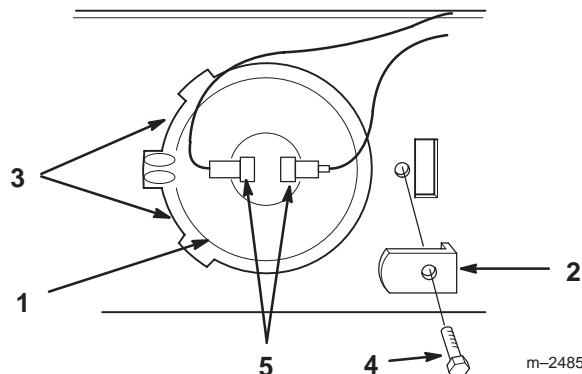

Figure 39
3. Remove screw securing retainer bracket (Fig. 39).
4. Lift and twist bulb out of pocket (Fig. 39).
1. Locate index boss horizontal and twist bulb under tabs on left side of pocket (Fig. 39).
2. Hold bulb in socket with retainer bracket and secure with screw (Fig. 39).
3. Push wire connectors onto bulb terminals (Fig. 39).